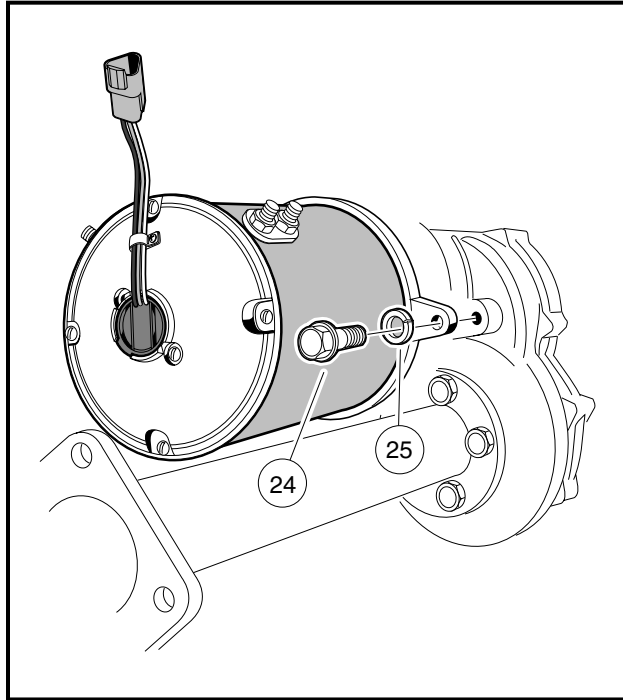

Figure 15-18 Motor Installation
- 4.4. Tighten the bolt (24) inserted through the tab to 155 in-lb (17.5 N·m) (**Figure 15-18, Page 15-15**).